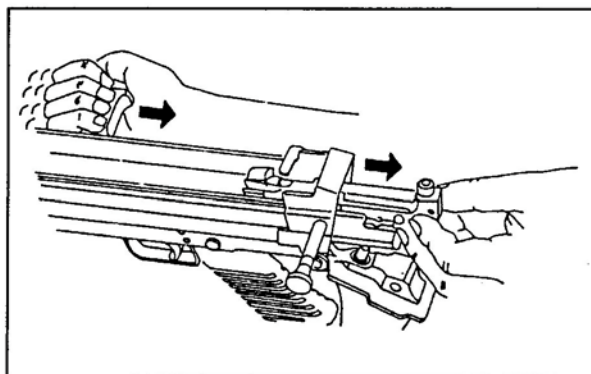

Figure 4. Removal of the operating rod, slide assembly, and bolt assembly.
- (1) Pull the cocking handle to the rear to move operating rod, slide assembly, and bolt assembly out the rear of the receiver (Figure 4).